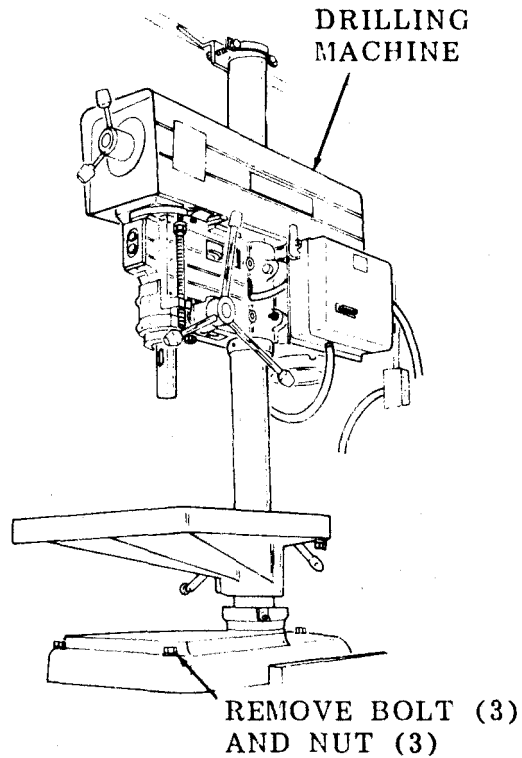

Figure 15-8. Drilling Machine, Removal and installation.
- a. Removal. Remove the drilling machine as illustrated in figure 15-8.
- b. Installation. Install the drilling machine as illustrated in figure 15-8.